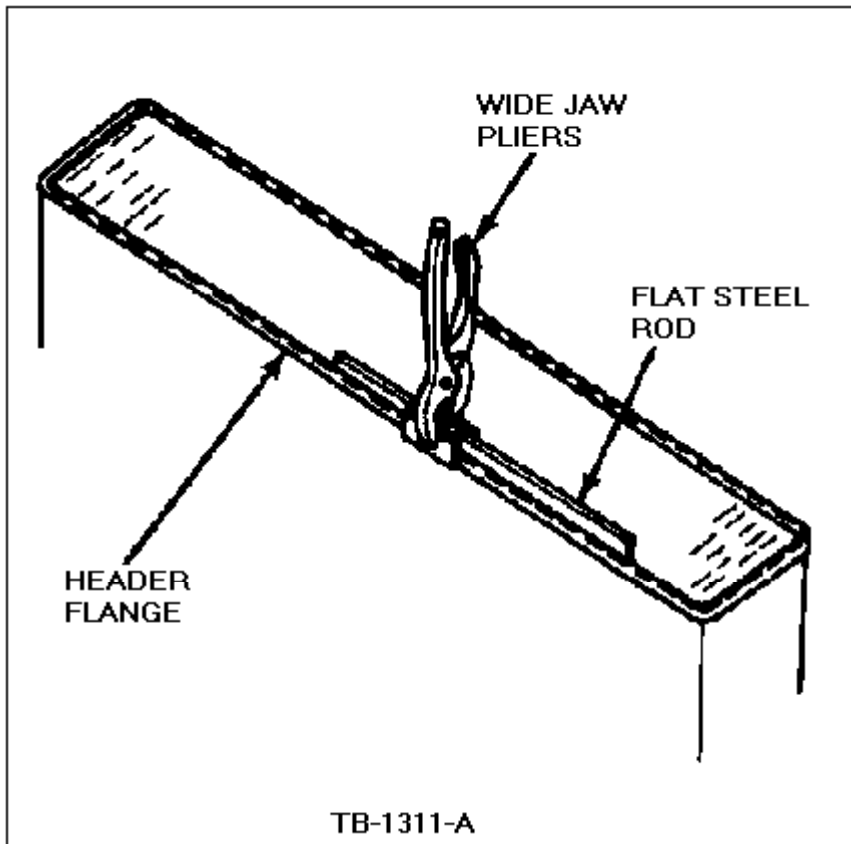

Figure 9 - Article 90-5-16
2. Straighten the flanges of the header if required with a flat metal piece and wide jawed pliers, Figure 9.